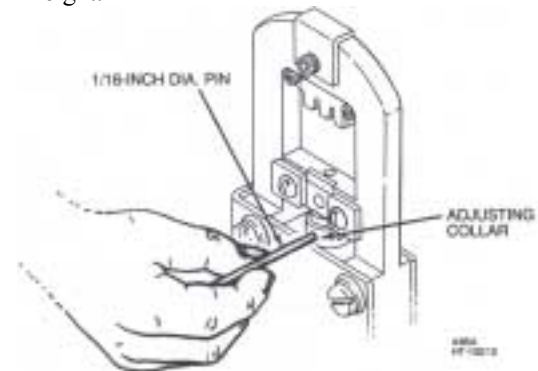

Figure 12
- 3 Close the hand tool lever one click to gain access to the holes in the side of the adjusting collar. Next, insert a pin approximately 1/16-inch in diameter, into one of the holes in the collar (see Figure 12). Then rotate the collar about 5 degrees counterclockwise to increase crimp height or clockwise to decrease crimp height.